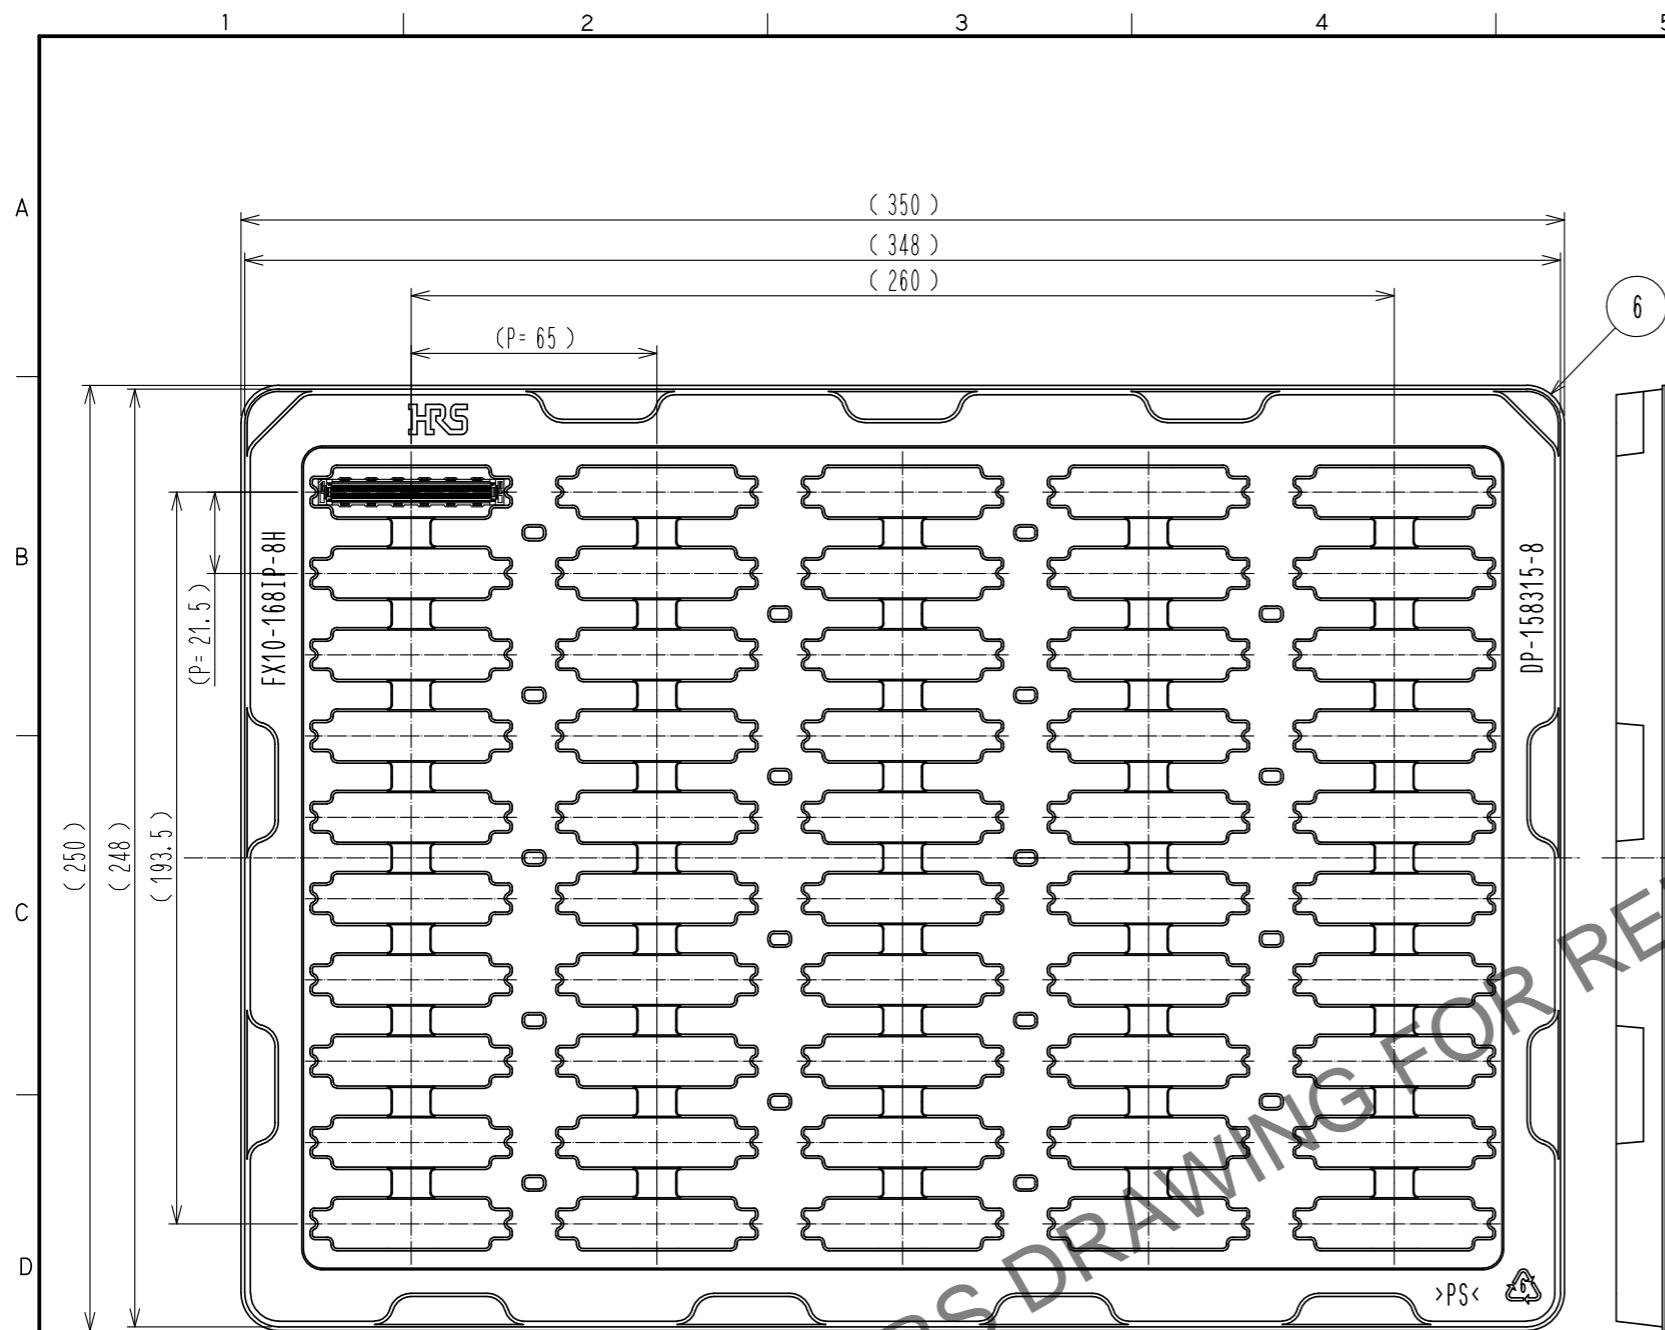

Fig.3 Drawing for packing (1:2) \triangleleft 6
- 6 50pcs of this product are packed in soft tray. See Fig.3 for details.